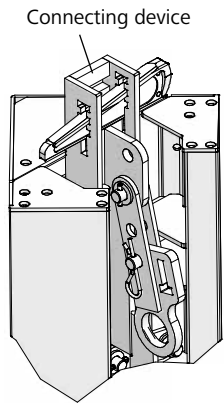

Fig. 36.6 C Pouring position
1. Insert the wedge integrated into the stripping corner into the connecting device (Fig. 36.6 C).
8. Reinsert the wedge into the connecting device (Fig. 36.6 C).